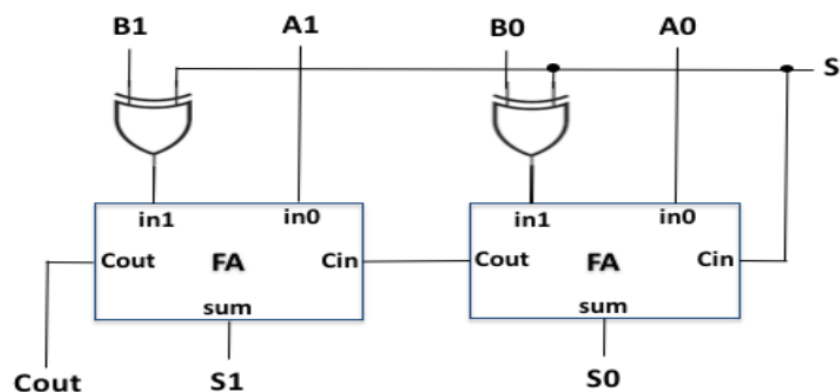

Figure 3: 2-bit Adder/Subtractor
d) Inside the **TwoBitAdderSubtractor.v** file, write a **structural** Verilog code to implement the 2-bit adder/subtractor module shown in Figure 3 using two cascaded full adders and two XOR gates from **lib.v**. This module has five inputs (A0, A1, B0, B1, and S) and three outputs (S0, S1, and Cout).